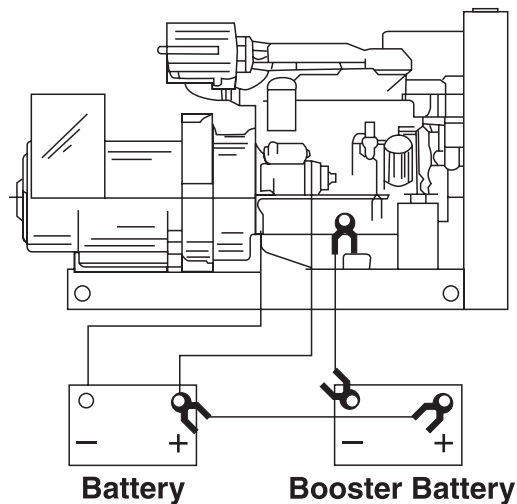

Figure 15: Booster Battery Connections
3. First, connect the positive (+) terminal of the booster battery to the positive (+) terminal of the main battery. Then, connect the negative (-) terminal of the booster battery to ground on the engine block (Figure 15).